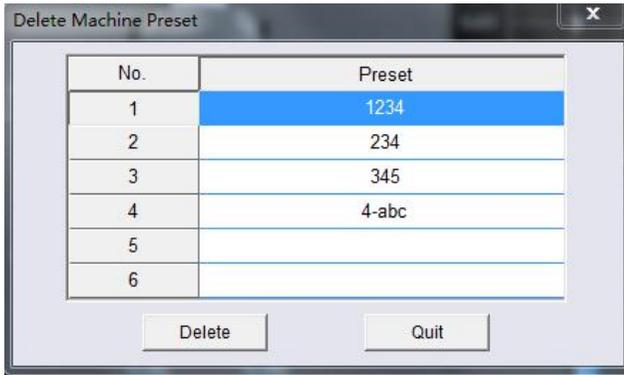
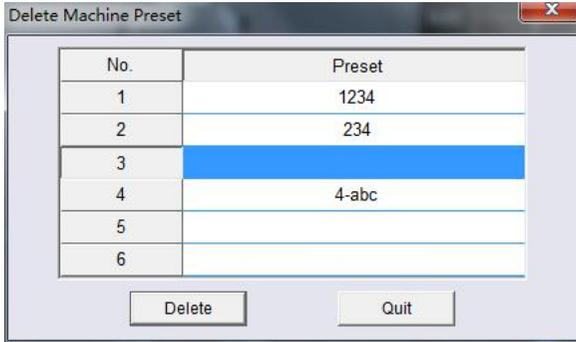

Figure 3.4.8
Figure 3.4.10
**Step 2:** Click the "Delete machine preset " after deleting the item will pop machine preset scene window dialog box (Figure 3.4.8).
**Step 4:** the dialog as shown in "Yes" on figure 3.4.8 to confirm the deletion, machine delete preset scene is complete, and can see the machine preset number 3, there is no name (Figure 3.4.10).